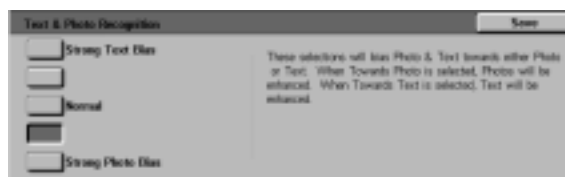

Figure 48: Text & Photo settings
- Touch the box that indicates the appropriate image quality level setting for Text & Photo, as illustrated in Figure 48.